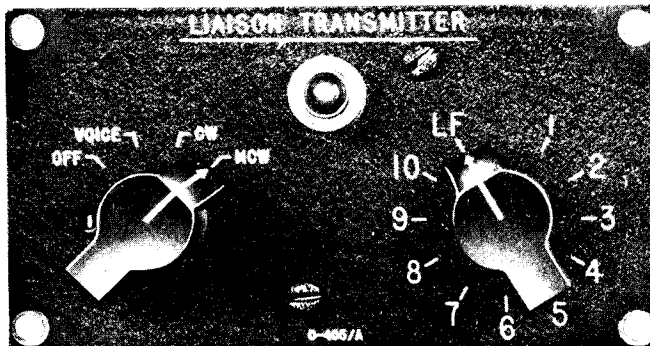

Figure 1-6. Control Panel C-405/A or C-405A/A
(1) The pilot lamp on the control unit will operate when the emission selector switch is in any position other than the "OFF" position (providing Autotune System is at rest). The pilot lamp will light only when the remote position is in control. The pilot lamp on the transmitter performs the same function when the transmitter controls are being used. If Autotune is in process of changing the transmission frequency, the pilot lamp will remain off until the Autotune cycle is completed. Thus, the pilot lamp serves a dual purpose by indicating that the power supply has been connected to the equipment and to let the operator know when the Autotune has completed the change from one transmission frequency to another so that the carrier is again ready to be keyed or voice modulated.
(2) Both control units mount a key, used for keying the transmitter on "CW" or "MCW" and a jack for connection of a microphone for "VOICE" operation.
d. CONTROL PANEL.—For installations having standardized control panels, Control Panel C-405/A replaces and performs all the functions (except key) of Control Unit C-87/ART-13. See figure 1-6.